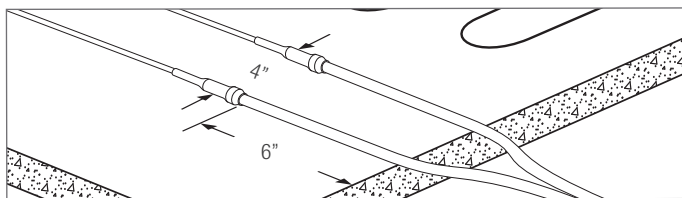

FIGURE 2.11: Cold Lead Positioning
5. Space the second hot / cold joint at least 4" (100mm) away from first hot / cold joint and 6" (150mm) in from the edge of the slab. See Figure 2.11.